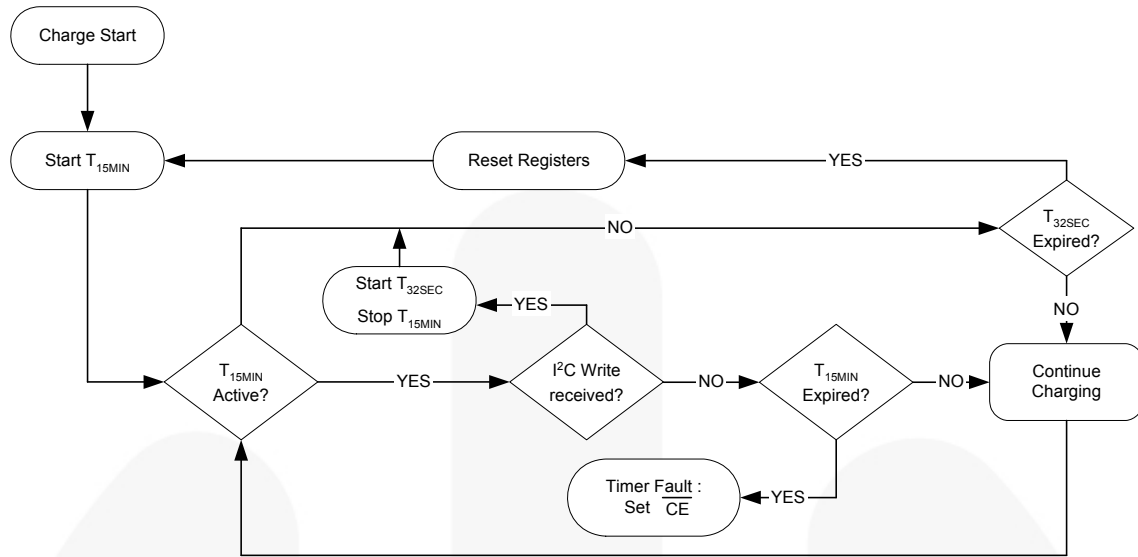
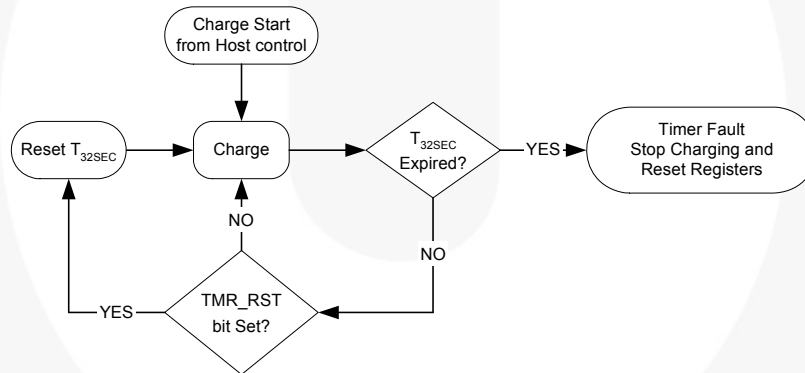

Figure 41. Timer Flow Chart for FAN5400, FAN5402, FAN5403, FAN5405
Figure 42. Timer Flow Chart for FAN5401, FAN5404
*This section references Figure 41 and Figure 42.*